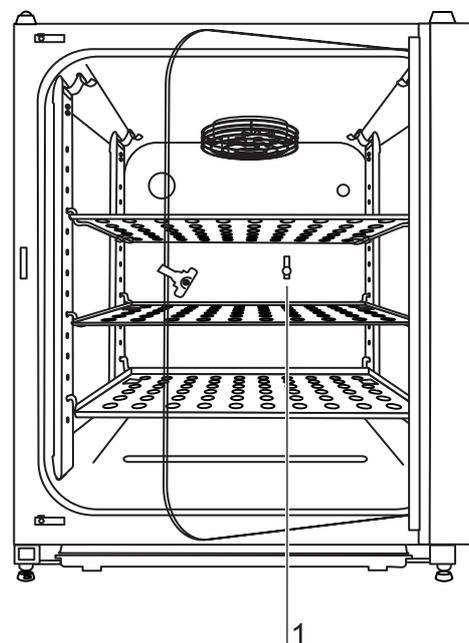

Fig. 24
3. **Fig. 24:** Insert the measuring instrument probe through the measurement opening [1] into the work space. Wait until the CO₂ value displayed by the instrument has stabilized.